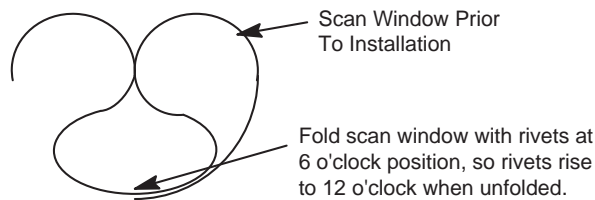
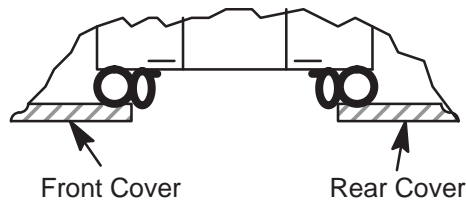

Figure 4-3 Install Scan Window
Figure 4-4 Scan Window Nested Between Front and Rear Cover
- 1.) Shape the scan window as shown in Figure 4-3, and nest the scan window at the bottom of the opening between the front and rear covers, (Figure 4-4) with the rivets in the 6 o'clock position. Remember the rivets must be in the 12 o'clock position when the mylar window is fully installed.